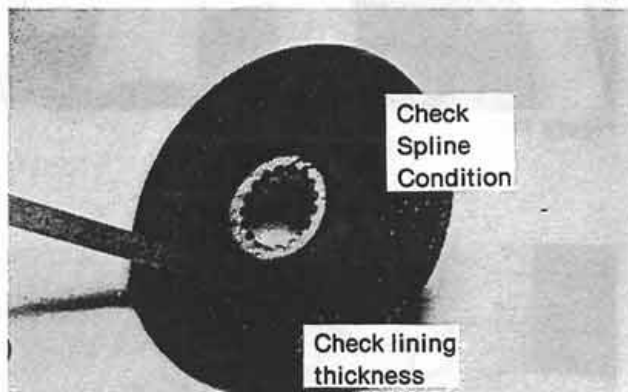

Figure 12:
5. Inspect the rotating brake discs for lining thickness and splined hub condition. Disc(s) should be replaced when lining material surface is less than 1/16 inch (1.58 MM) from the disc backing plate (Fig. 12), or if the hub splines are worn to the point of excess looseness on the center shaft.